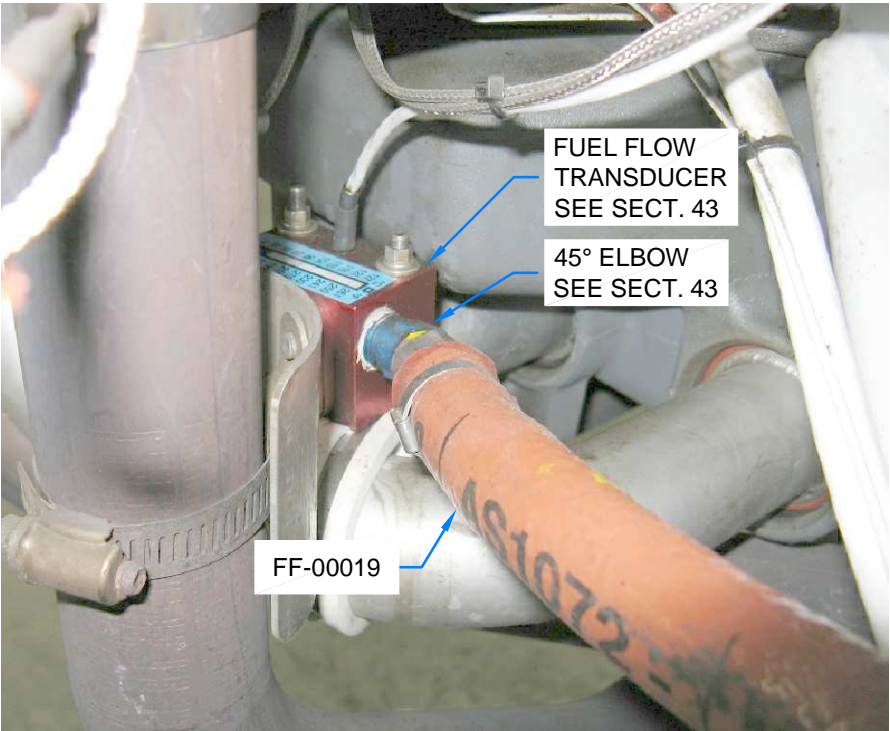

FIGURE 3: CONNECTION AT FUEL FLOW TRANSDUCER
Step 3: (Tri-Gear) Attach the free end of the FF-00019 Hose to the 45 degree elbow at the aft side of the fuel flow transducer as shown in Figure 3.